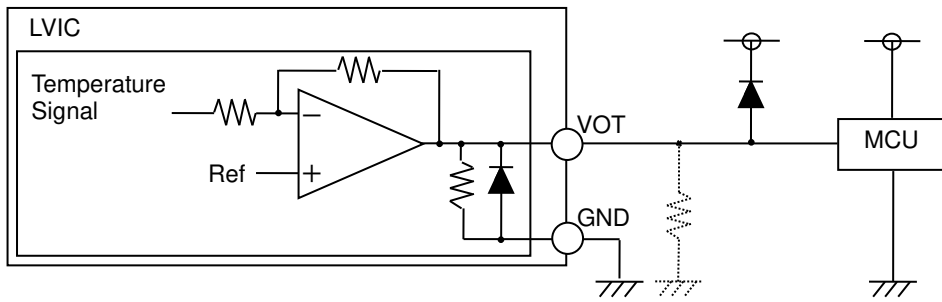

Figure 15. Example of VOT External Circuit
- 7) VOT pin (Refer to Figure 15)